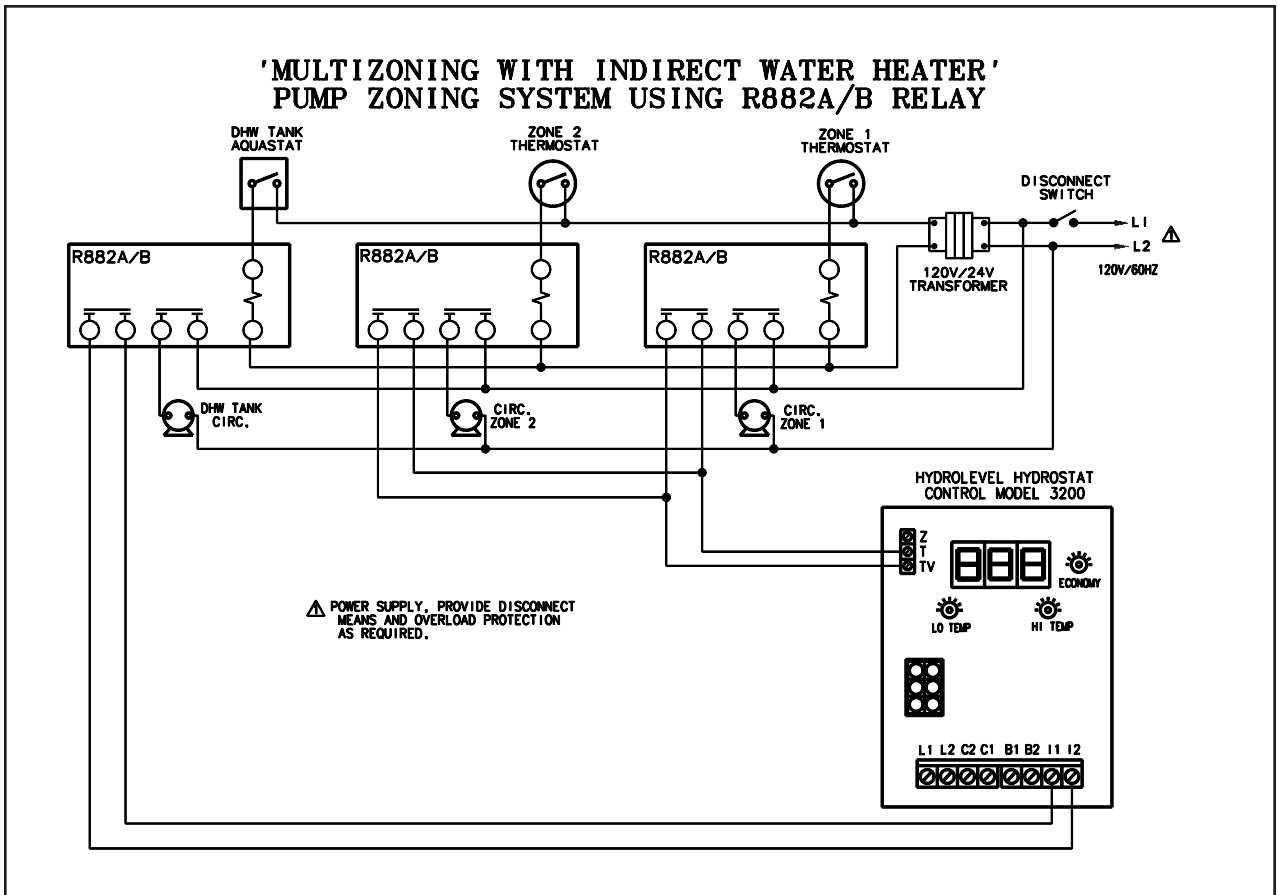

Figure 6. Multizoning with indirect water heater pump zoning system using R882A/B relays.
If system includes indirect water heater, the indirect signal must be separated from heating zones(s) system. See figure 6 and 8. Follow steps below:
- c. Power DHW and heating zone(s) circulators through end switch relays as shown on figure 6. Do not connect heating zone(s) circulators to C1 and C2 of the control.